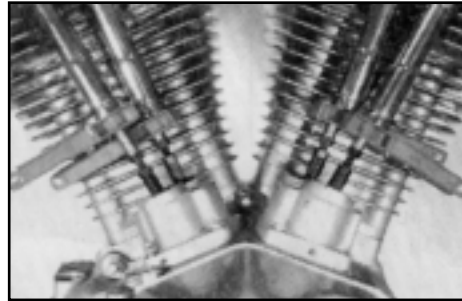

Fig. 1
2. Remove pushrod cover keepers, then lift covers, exposing the pushrod adjusting hex nuts. Hold each cover up by placing a Crane pushrod clip on the pushrod above the hexes and allowing the cover to rest on it (Fig. 1). With kick starter, or rear wheel with transmission in high gear, turn the engine over until both front tappets are in their down position (top of the compression stroke). Loosen the lock nuts on the front pushrods, then turn them and the lower portion of the pushrods up until no thread shows. Holding each pushrod up into the rocker arm pushrod seat, move the clip to the lowest point possible on the pushrod. Keeping the pushrod centered over the
2. Remove pushrod cover keepers and lift covers. Place Crane pushrod clips on pushrods to hold covers up (Fig. 1). Rotate engine forward and watch **front intake** tappet as it raises and falls; stop rotating as it reaches bottom. Protect the tappets from chips while cutting the front exhaust pushrod with a saw, bolt cutter or cutting wheel (fig. 7). Remove it from the engine.